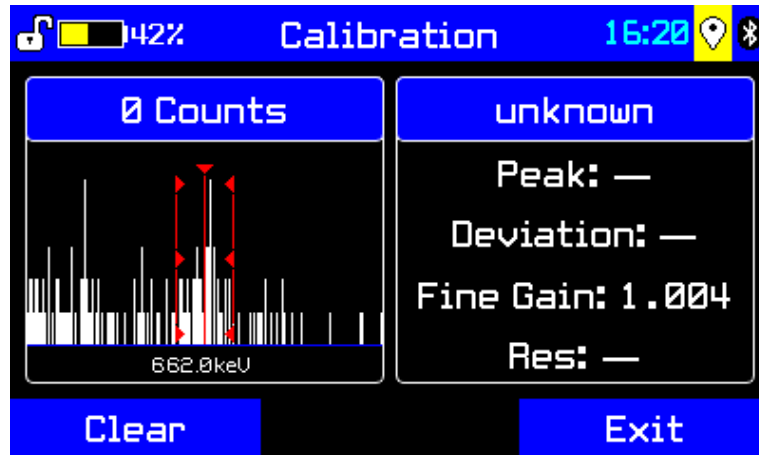

Figure 6-54: Calibration check begins
- Press the **M** key to select the source you want from the menu. When the source is detected, a screen similar to Figure 6-54 appears.